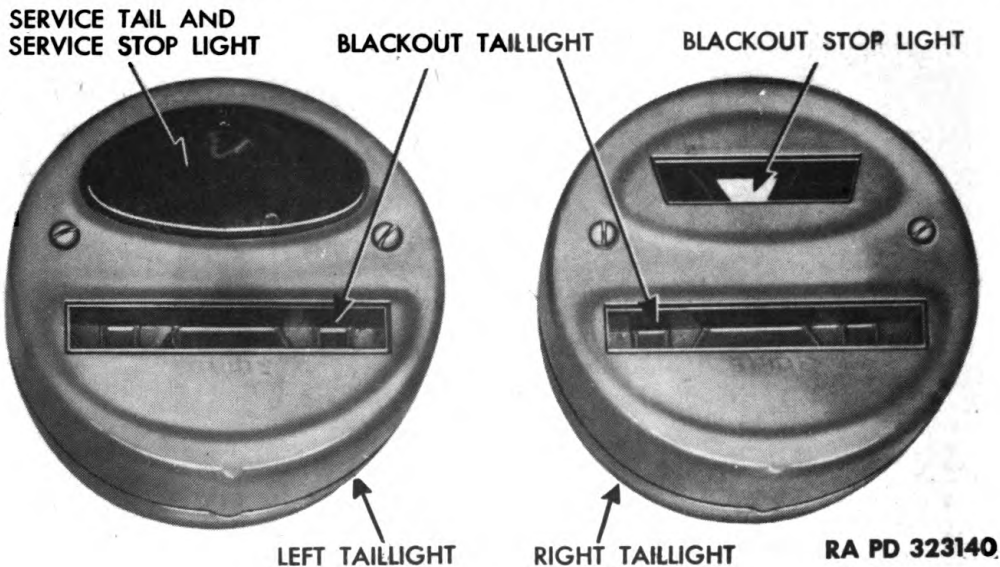

Figure 141 — Taillights
(2) **BLACKOUT HEADLIGHT.** Place a vertical screen or wall 10 feet in front of the vehicle. Level vehicle as covered in subparagraph e (1) above. Turn on blackout driving light. Adjust light up or down until the visual cut-off of the top of the beam on the screen or wall is between 2 and 3 inches below the level of the bottom of the slot. Tighten the three cap screws attaching supporting shaft to light body when adjustment is correct. Remove sealed beam lamp-unit, door, and ring assembly from light body. Spread slotted ends of cap screws to lock them. Then, replace sealed beam lamp-unit, door, and ring assembly.
a. **Description (fig. 141).** Two taillights are provided on the vehicle, one in the rear of the left powder box, and the other in the